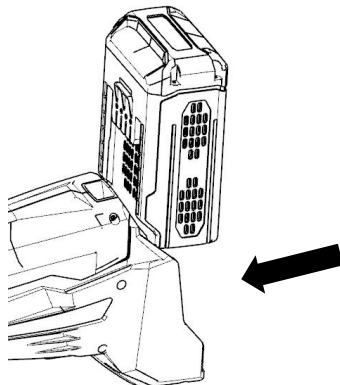

Fig .7
1. Insert the battery pack into the socket, until you hear a clear “click” sound (Fig. 7).